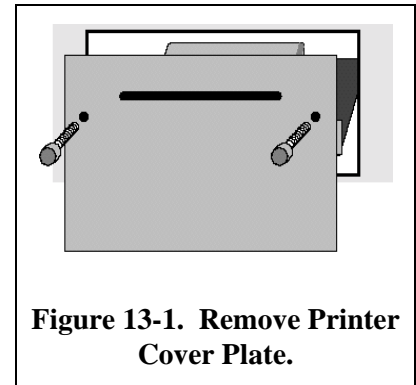

Figure 13-1. Remove Printer Cover Plate.
- 2) Remove the printer cover plate by removing the two thumb screws and pulling the plate straight forward. See Figure 13-1.
- 1) Remove the printer cover plate by removing the two thumb screws and pulling the plate straight forward. See Figure 13-1.